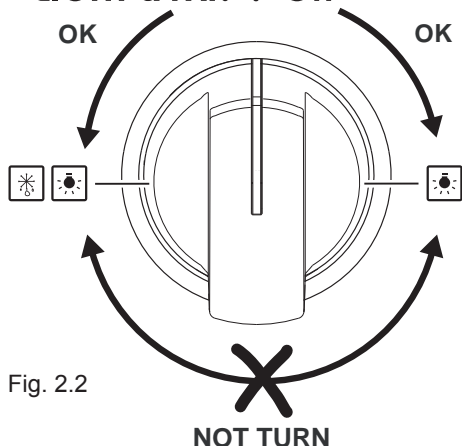

Fig. 2.2
The oven light and the fan motor are controlled by a switch knob on the control panel (fig. 2.2). To light up the oven lamp turn the knob counterclockwise to position.
**IMPORTANT NOTE:** during ignition of the oven burner the fan motor shall be switched Off (LIGHT & FAN control knob in Off position - fig. 2.2).
After lighting the oven burner switch on the fan motor by turning the **LIGHT & FAN** control knob (fig. 2.2) on   position.
With the oven/broil burner control knob in **Off** position turn the **LIGHT & FAN** control knob (fig. 2.2) on   position.